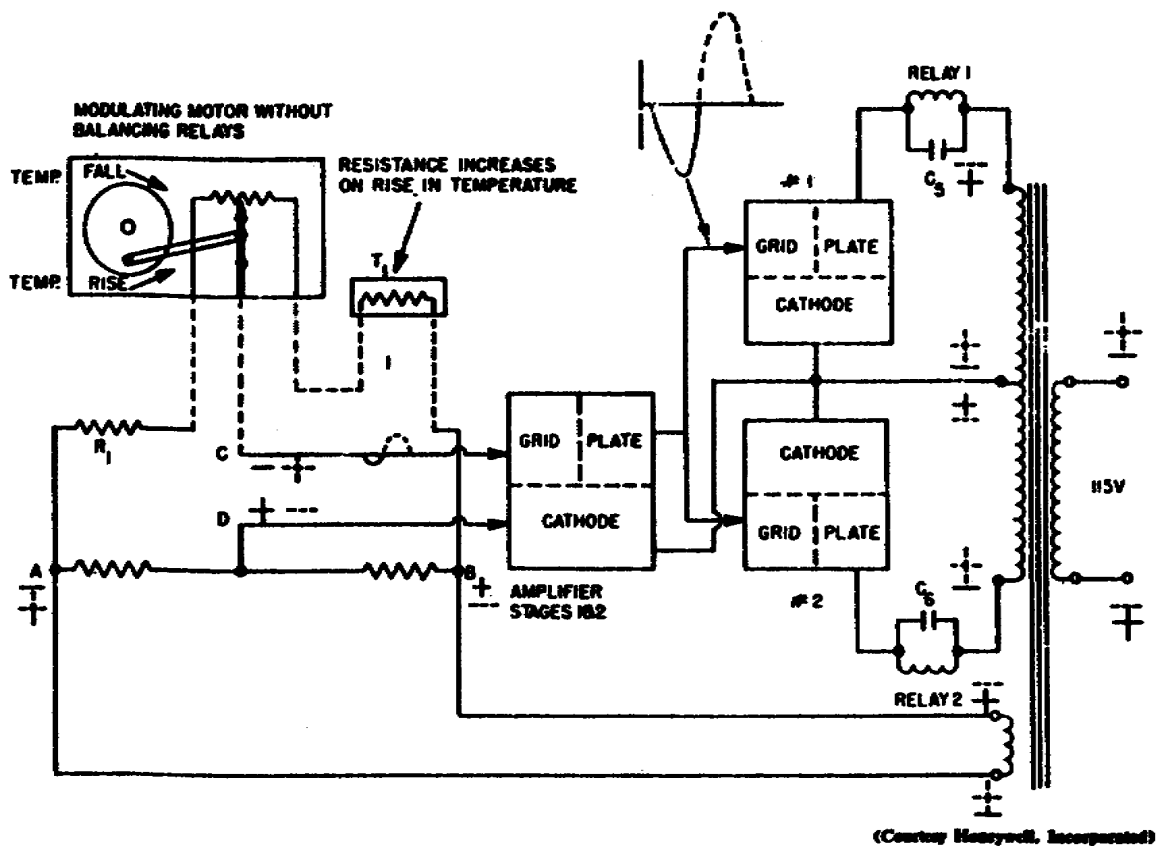

Figure 132. Modulating control.
10. For modulating control, illustrated in figure 132, a modulating motor is used with a balancing potentiometer. The balancing potentiometer is wired in series with the thermostat resistor. Its purpose is to bring the bridge back into balance (no voltage between points C and D) when a deviation has been corrected. Assuming a rise in temperature at T_1 and the polarity shown by the solid symbols, point C will be negative. Neither of the discriminator tubes will conduct because the control grids of both are negative beyond cutoff bias.